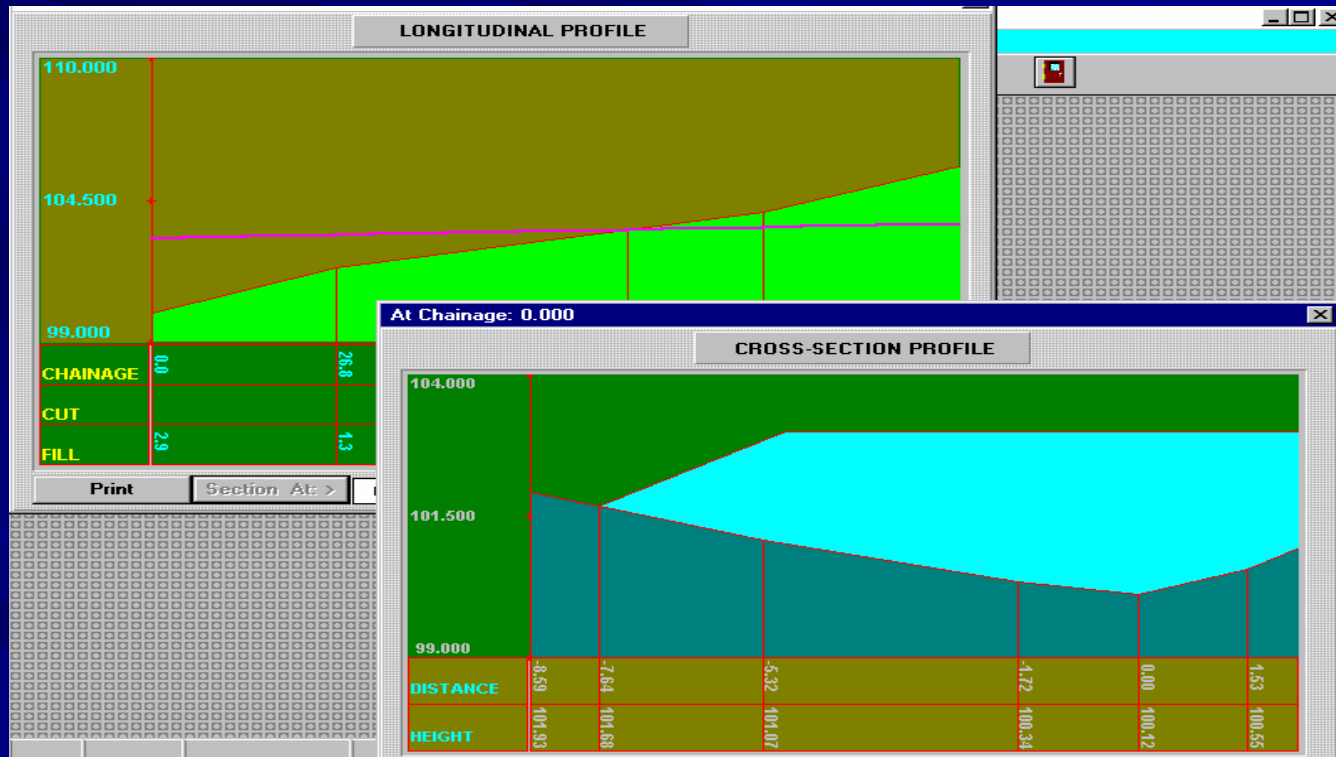

Fig. 8-2
- Graphic output, Fig. 8-2 produced on a printer is excellent.